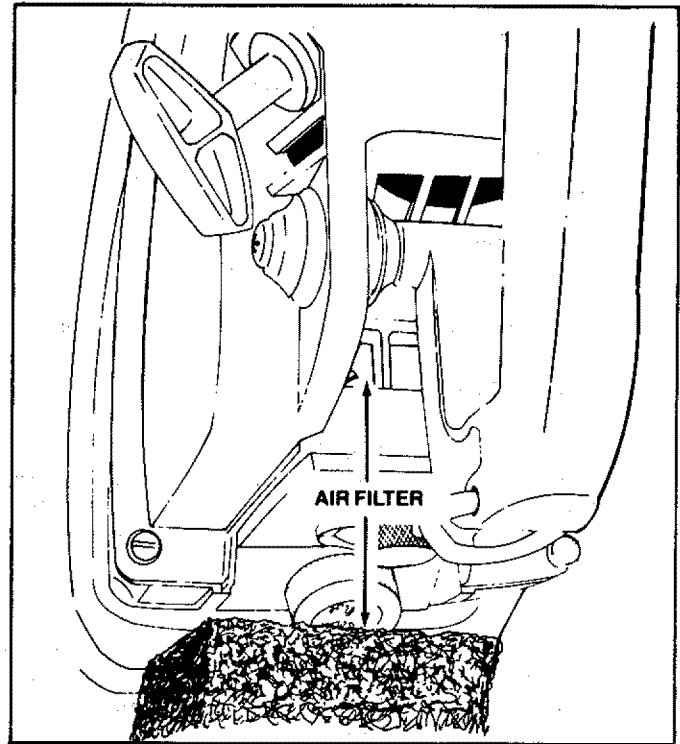

Figure 8
- Remove air filter. See Figure 8.
1. Remove the air filter (located above the control panel; see Figure 8).